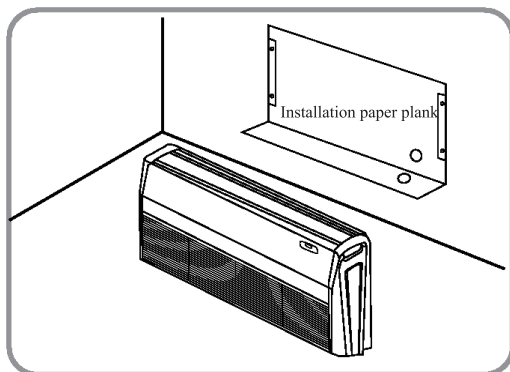

Fig.2
a. Determine the mounting position on ceiling or wall by using paper pattern to indicate indoor frame. Mark the pattern and pull out the paper pattern.(Refer to Fig.2)